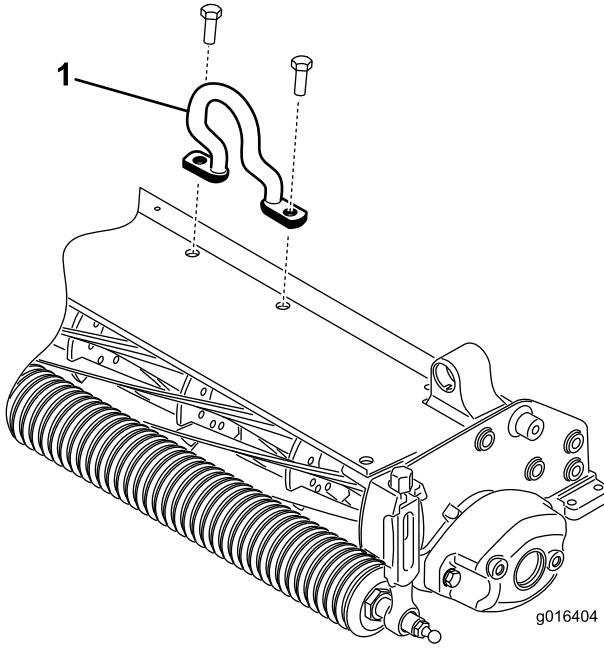

Figure 4
Install the offset link (Figure 4) to the top of the cutting unit with (2) capscrews. Torque the capscrews to 25-30 ft-lbs. (34.40 N-m).